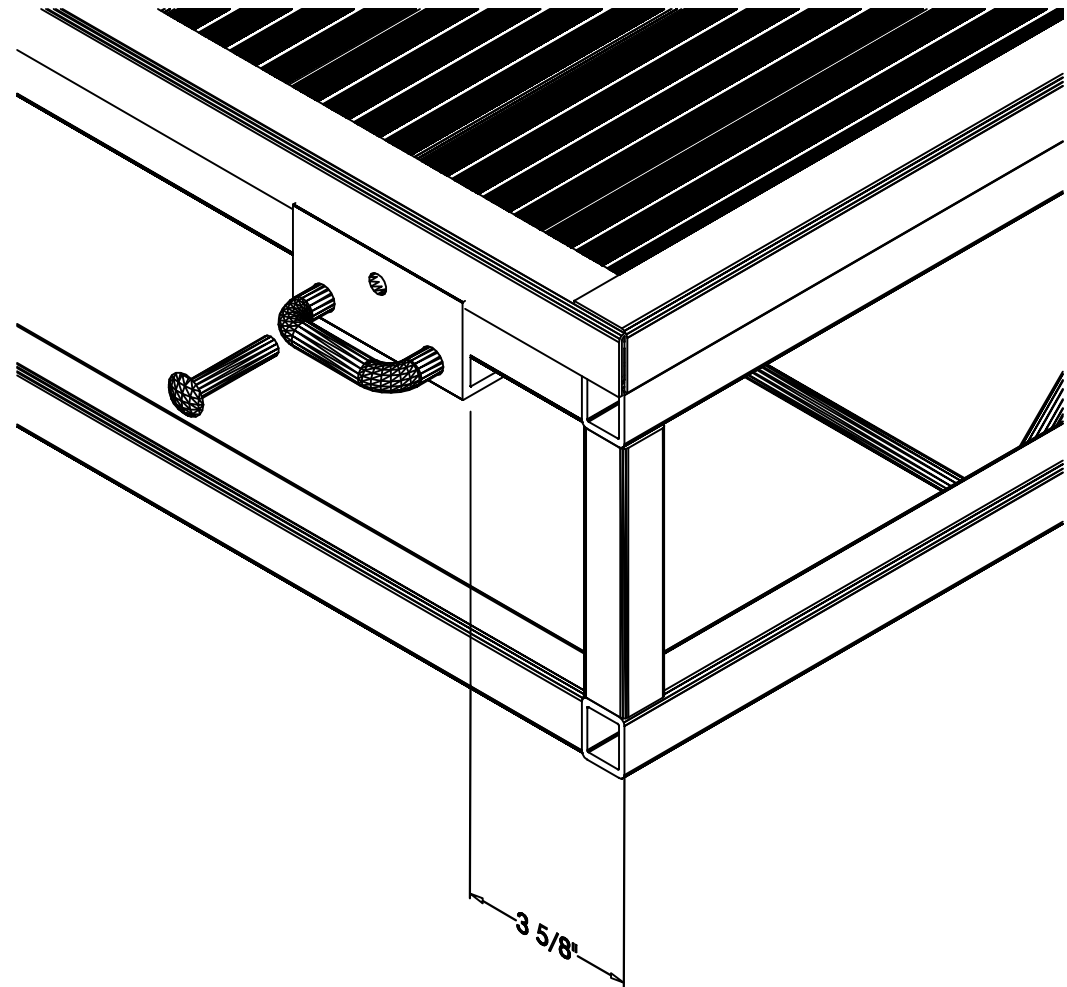

Fig. 1
- Locate dock ramp bracket weldment 3 5/8" from edge of dock to edge of bracket as shown in Fig. 1.